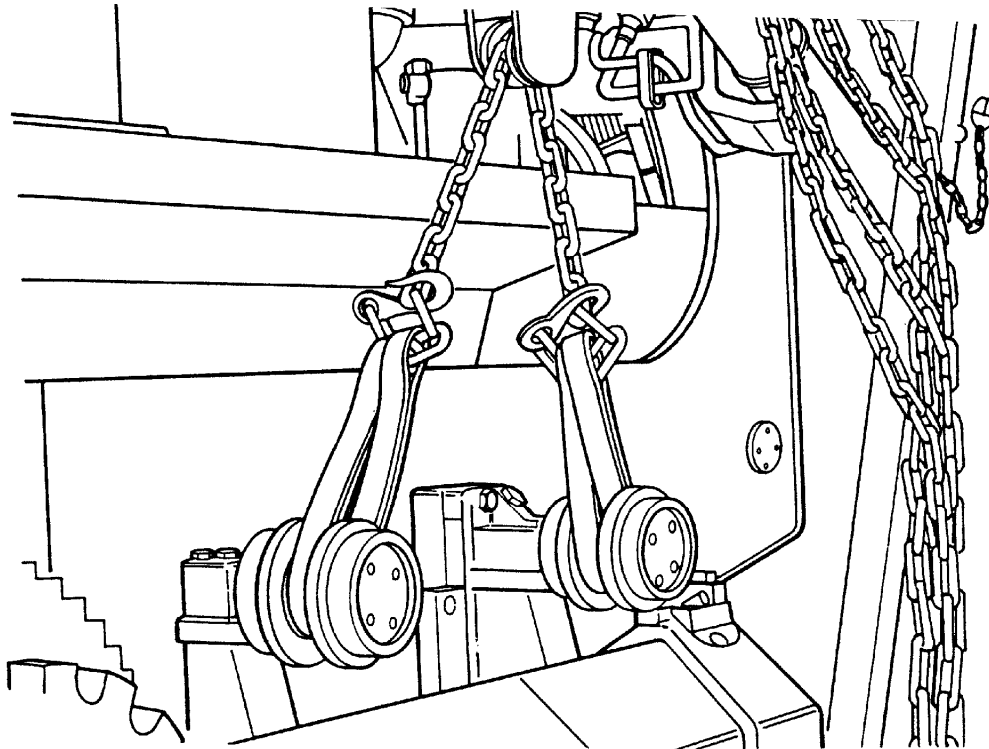

Fig. 14.33. Track Frame Removal
6. Jack front and rear of machine up and block it securely. Machine should be raised high enough for track rollers and shields to clear chain. Attach a hoist to two track idlers as shown in Fig. 14.33. Lift track frame load off pivot shaft and track chain.